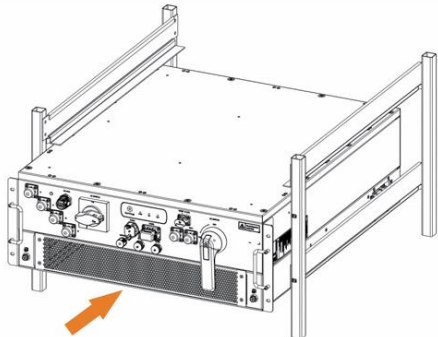

Figure 5-5 Insertion of the converter into the cabinet
Step 2: Slide the converter into the cabinet along the mounting rails on both sides until the mounting ears are flush with the upright columns of the cabinet, as shown in Figure 5-5.